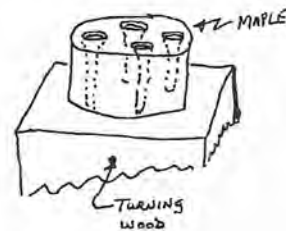

Fig. 1
- 3.) Make a block jig (see Fig. 1) to attach almost any wood to your 4-jaw chuck. Pre-turn a round block of hardwood (I use maple) to about 1 1/2 thick by about 2 inches in diameter. Pre-drill four clearance holes
The first way is to screw what will become the bottom of the bowl to the plate (see fig.1), being careful to roughly center the wood so it doesn't cause much out-of-balance shaking when the lathe starts turning. When mounting this way you must note that the first inch out from the plate is not usable because of the screws so adjust the picture your mind sees of the final bowl accordingly.